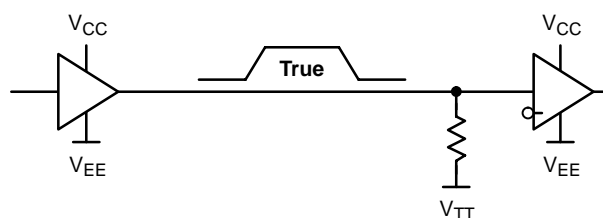

Figure 2. Standard Single-Ended ECL Interconnect
Signals may be imported as full differential lines or as a Single-Ended (SE) line interconnection. The SE interconnection may be seen as a special variation of the typical differential interface using only one driver source trace line. This single trace line drives a (Base) input pin of the receiver, as shown in Figure 2. Although a receiver may present only a single, dedicate SE input pin instead of a differential input pair of pins, such a receiver still would have a differential structure with the unavailable input controlled by internal circuitry.
A device may have a dedicated single-ended input, having only one of the internal differential base inputs pinned out of the package, available to be driven by a signal. Internal circuitry connects a  $V_{BB}$  voltage reference to the other internal, non-driven input base node of the differential buffer gate, as shown in Figure 2. This internal, fixed reference voltage,  $V_{BB}$ , is maintained at the midpoint between  $V_{IL}$  and  $V_{IH}$  for dedicated single-ended inputs. The internal  $V_{BB}$  is derived from referencing the  $V_{CC}$  supply and tracks changes 1:1 in this supply. Noise and drift in  $V_{CC}$  will inject jitter and phase noise directly into the signal.